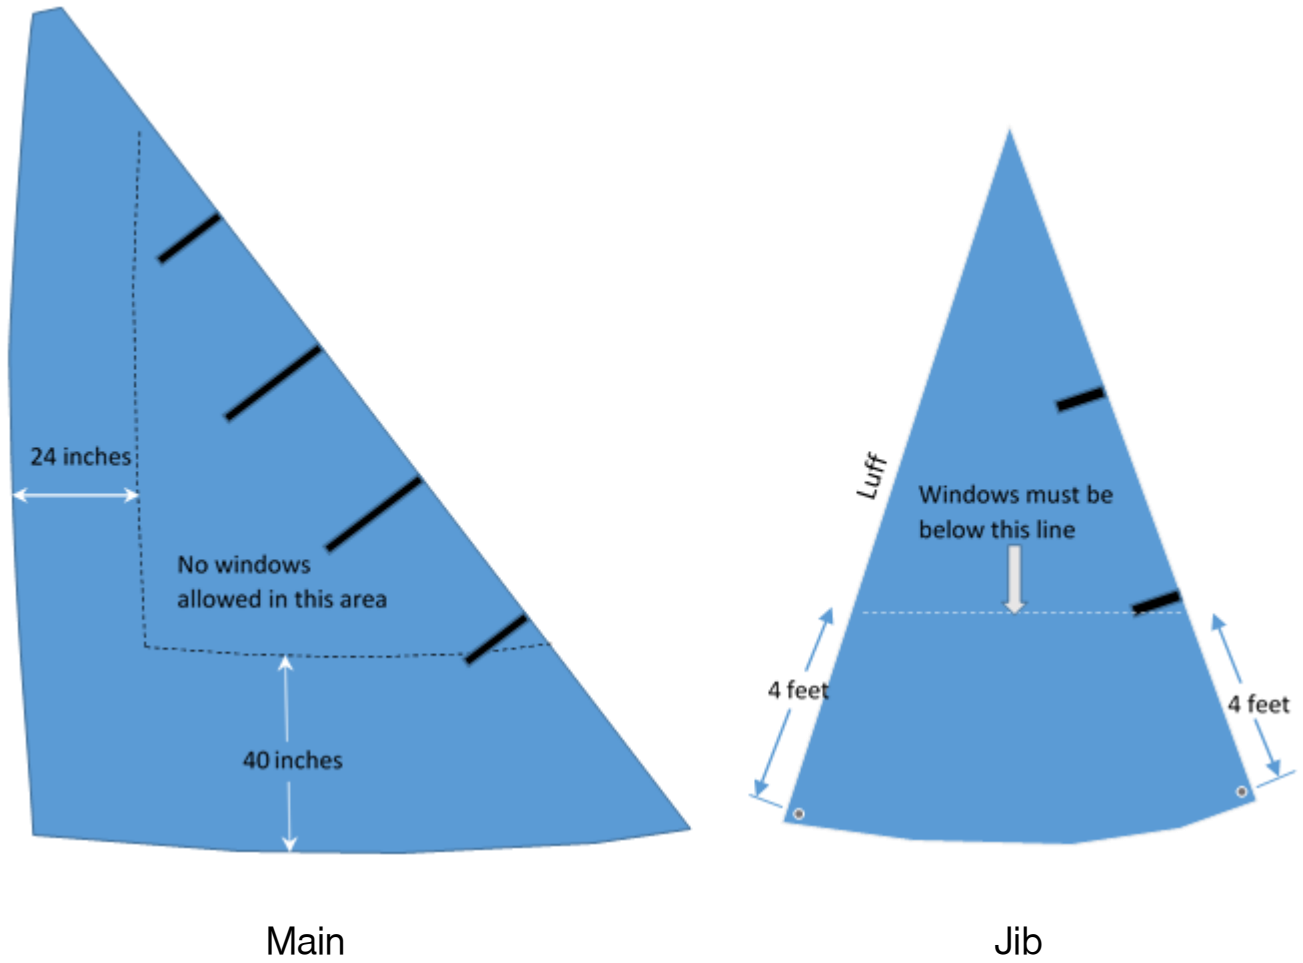

Figure 7 Definition of main and jib allowable areas for window placement
- vi. Windows must be a material that is clear and without any fiber reinforcement. A maximum of 21 ft2 (total) window area is permitted with a maximum of any single window being 6.5 ft2. Windows must be located within the boundary defined by a parallel line that is 24 inches from the free edge of the mast bolt rope and a parallel line that is 40 inches from the free edge of the boom bolt rope (Figure 7).
- iv. Windows must be a material that is clear and without any fiber reinforcement. A maximum of 5 ft2 (total) window area is permitted with a maximum dimension of a single window being not more than 40 inches in any direction. Windows cannot extend higher than a line drawn between a point that is 4 feet up from the center of the luff grommet (measured along the luff) and 4 feet up from the center of the clew grommet (measured along the leech – Figure 7).